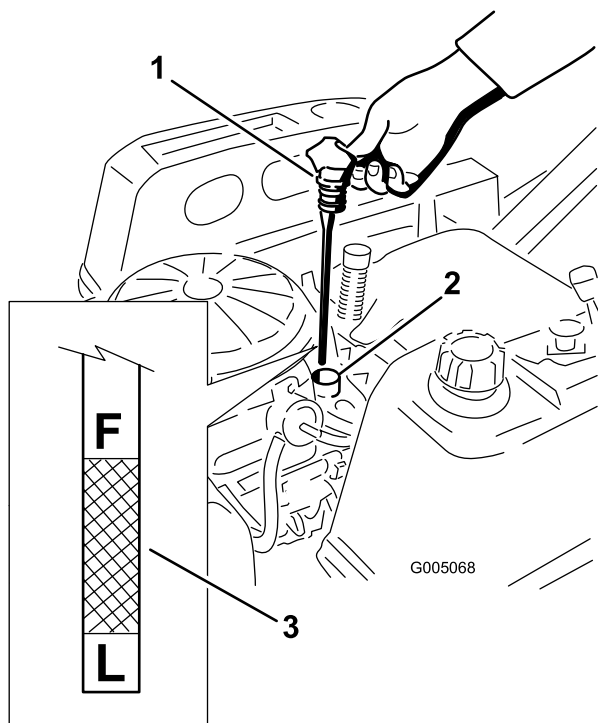

Figure 32
5. Insert the dipstick and push firmly into place (Figure 32).
6. Remove the dipstick and check the oil level (Figure 32).
9. Remove the oil-fill cap and dipstick (Figure 32).
19. Slowly pour approximately 80% of the specified oil into the filler tube (Figure 32).
20. Install the oil-fill cap and dipstick, and push it firmly into place (Figure 32).
21. Check the oil level (Figure 32); refer to Checking the Engine-oil Level (page 28).
23. Install the oil-fill cap and dipstick, and push it firmly into place (Figure 32).